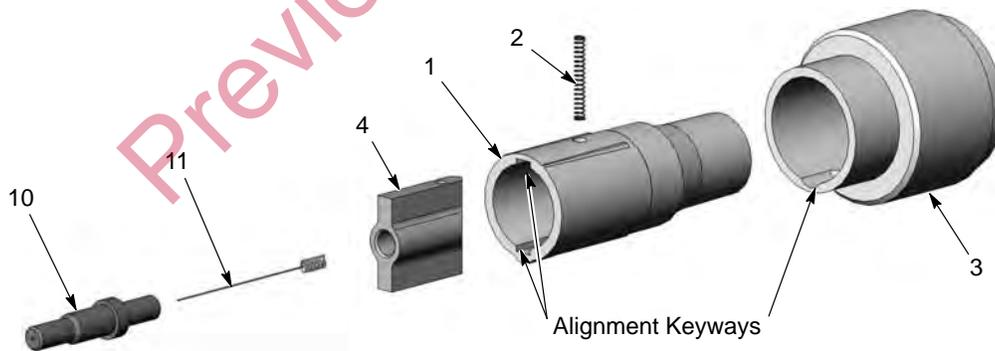

Figure 17 Electrode Support Sleeve Replacement
- The electrode support consists of items 1–4 shown in Figure 17.
- The support assembly (3) contains a resistor. If the resistor fails, the entire assembly must be replaced.